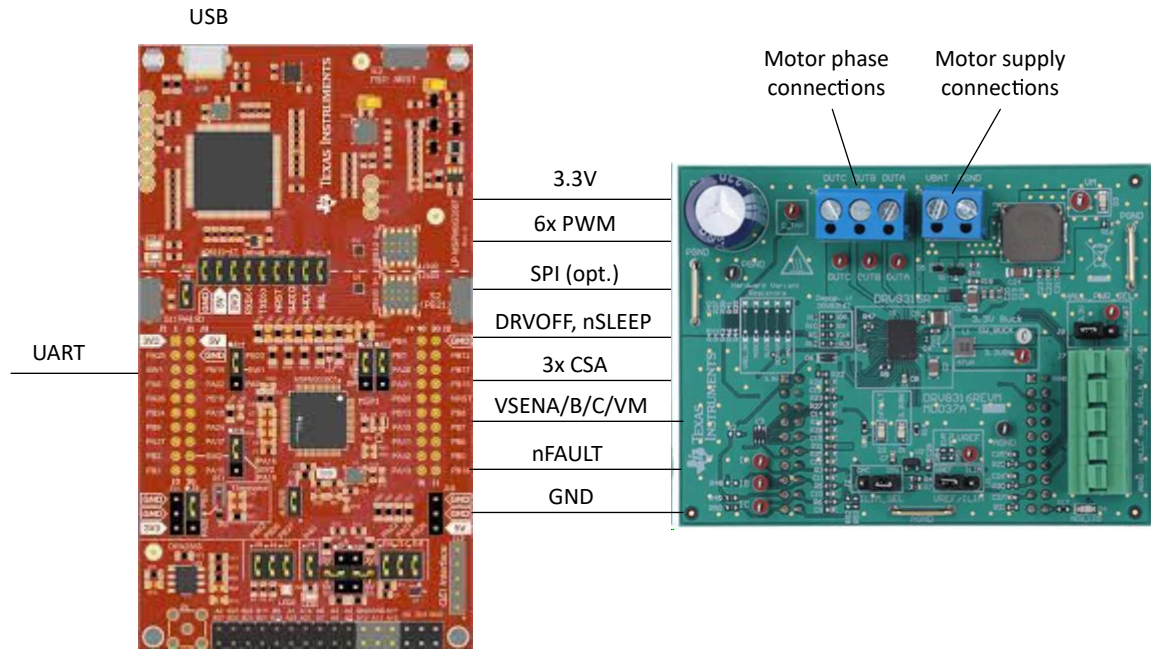

Figure 2-4. MSPM0 LaunchPad Kit and DRV83xx EVM External Configuration
2. Make the inter-device connections from the MSPM0 LaunchPad to the DRV83xx EVM by mating the EVM to the LaunchPad or using jumper wires as shown in Figure 2-4. See Section 2.1.1 for hardware user guide connection details.